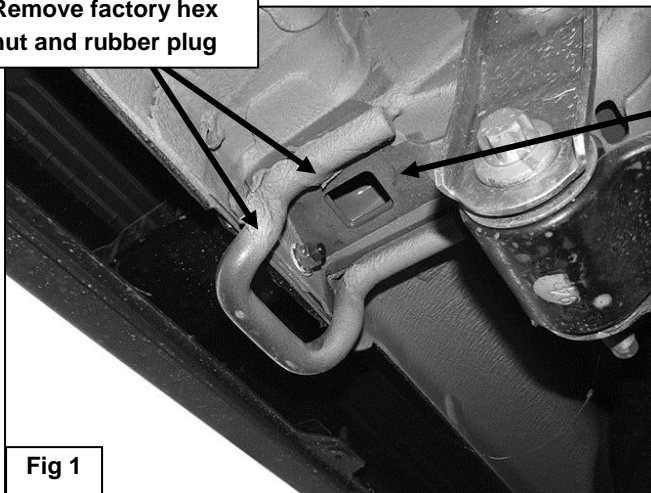

Fig 1
1. Starting on the passenger side of the vehicle, locate the square hole in end of the rear frame channel, **(Figure 1)**. **NOTE:** Remove rubber plug if equipped. Next, remove the factory hex nut attaching the bottom bumper bracket bolt to the frame channel inside the rear tow hook.
2. Insert (1) 12mm Bolt Plate into the square hole in the bottom of the frame channel, **(Figures 1 & 2)**. Use the included 12mm Plastic Retainer to help hold the Bolt Plate in place in the frame.